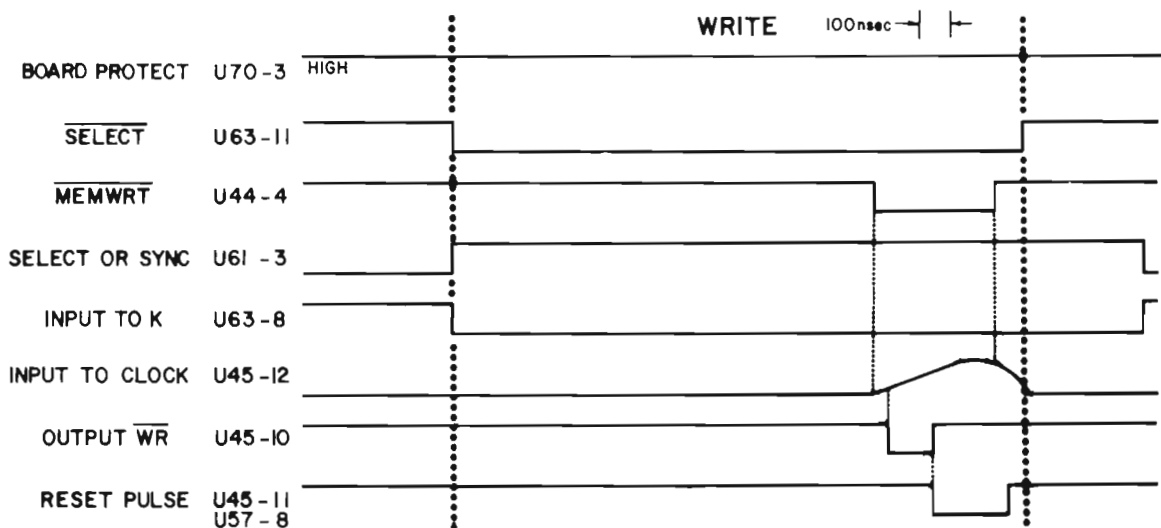

Figure 7-6. WRITE REQUEST (WR) TIMING
Refer to Figure 7-6. The operation of the Write Request (WR) flip flop starts with a write operation to the 16KRA board. If the board is unprotected (U70-3 high), selected (63-11 low), and a write operation is in progress, input to K, U63-8 will go low. Input to clock will go high for .5 usec, 1.5 usec later. This will clock the WR flip flop and cause the $\overline{\text{WR}}$ signal on pin 10 to go low. This will initiate a chain of events which will lead to $\overline{\text{WE}}$ being clocked, MC being set, the delay line being triggered, and eventually U57-8 and U45-11 going low for 200 nsec which resets WR through pin 11. This reset normally happens about 150 nsec later under normal circumstances (no CY in progress).